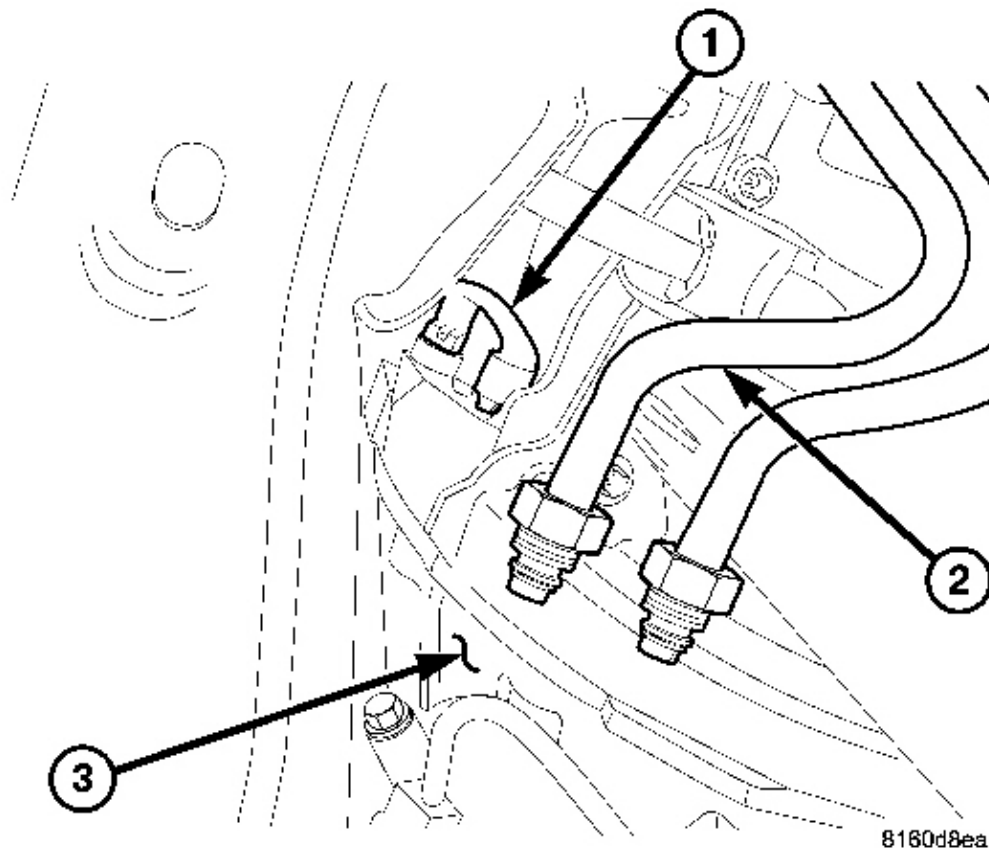

Fig. 288: #9102 Crankshaft Lock, Transmission Cooler Lines & Transmission
6. Install # 9102 flywheel locking tool. See **Fig. 288**.